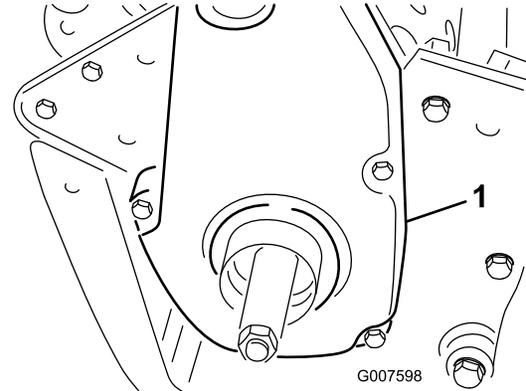

Figure 36
1. Remove the belt cover mounting fasteners and the belt cover to expose the belt (Figure 36).